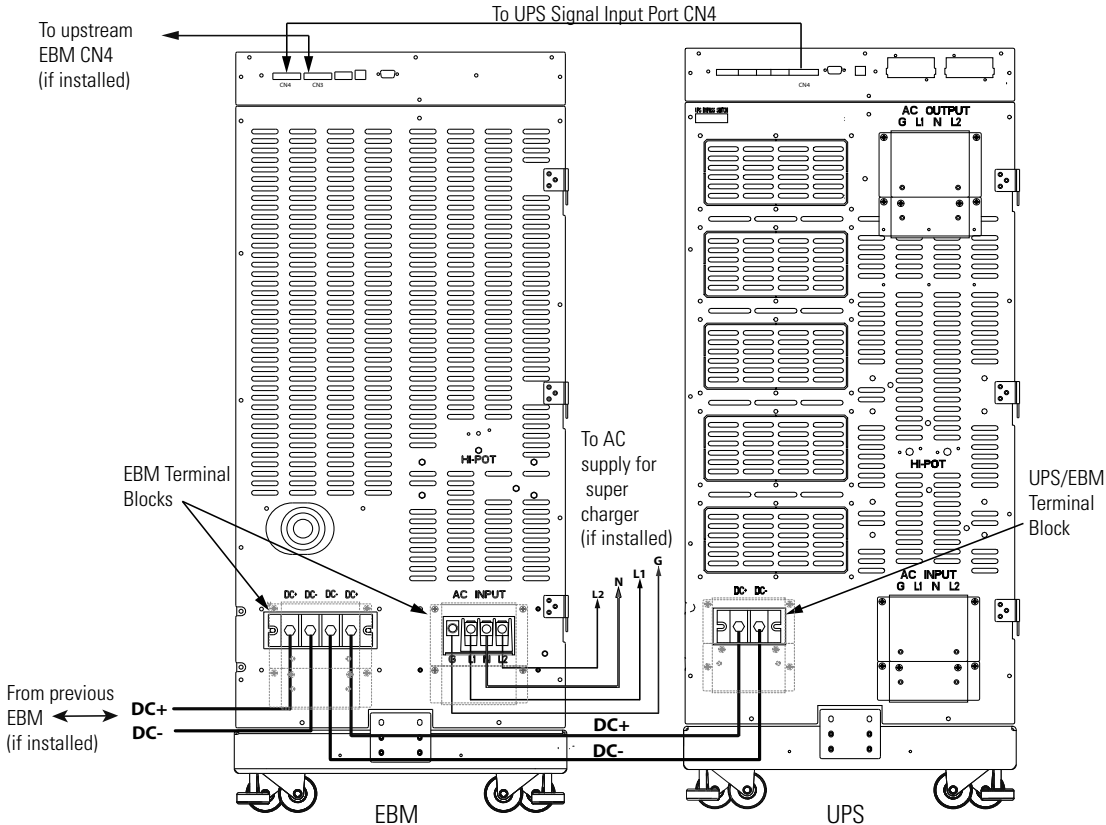

Figure 41. EBM to UPS Connections
7. On the upper rear panels, connect the input signal cables from the EBM CN4 to the UPS input signal port CN4 using the supplied cables with (see Figure 41).